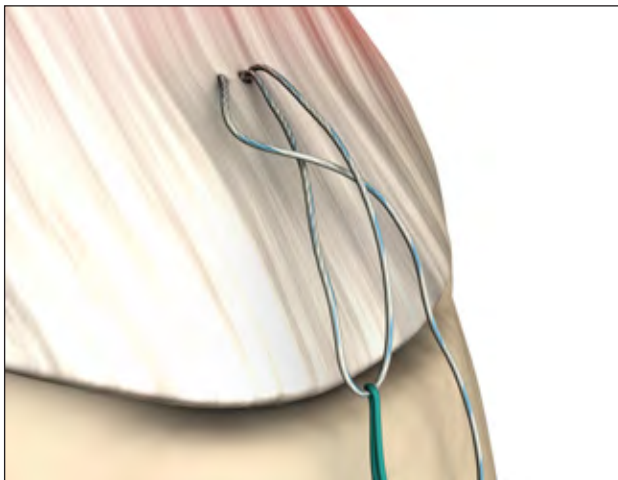
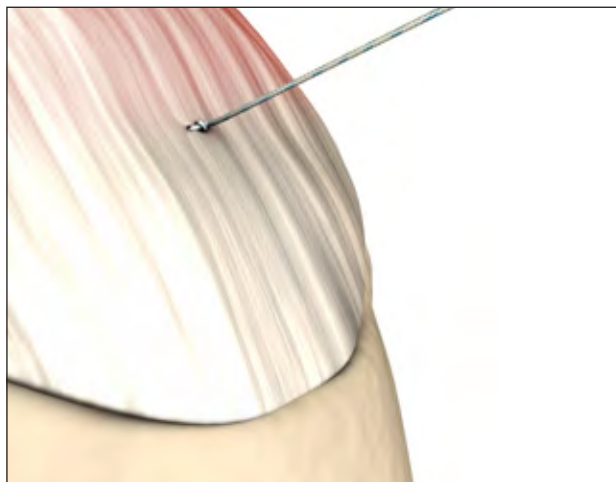

Figure 16
Figure 17
6. Thread the free suture limb of the KINSA RC anchor through the KINSA RC loop (Figure 16). Once completed, pull on the free limb to reduce the KINSA RC loop until it sits tightly on top of the rotator cuff tissue (Figure 17).